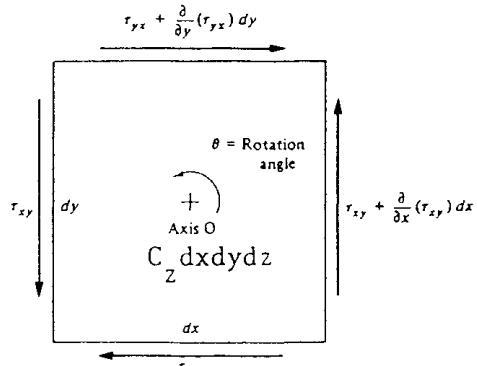

Fig. 4.5
**4.38** Reconsider the angular-momentum balance of Fig. 4.5 by adding a concentrated body couple  $C_z$  about the  $z$  axis [6]. Determine a relation between the body couple and shear stress for equilibrium. What are the proper dimensions for  $C_z$ ? (Body couples are important in continuous media with microstructure, such as granular materials.)